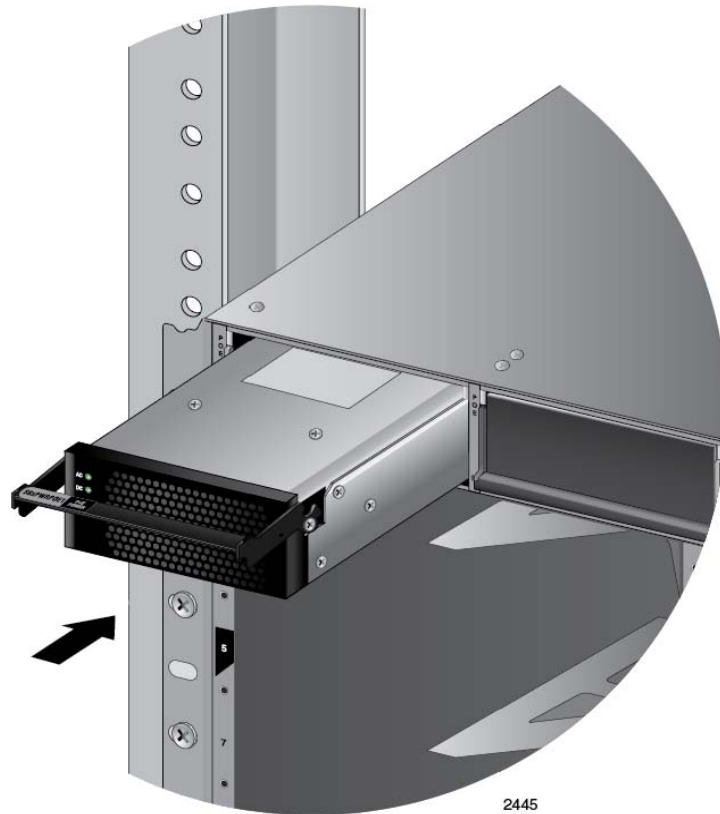

Figure 56. Inserting the AT-SBxPWRPOE1 Power Supply
5. Align and insert the AT-SBxPWRPOE1 Module into slot A or B. Figure 56 shows the power supply module aligned in slot A.